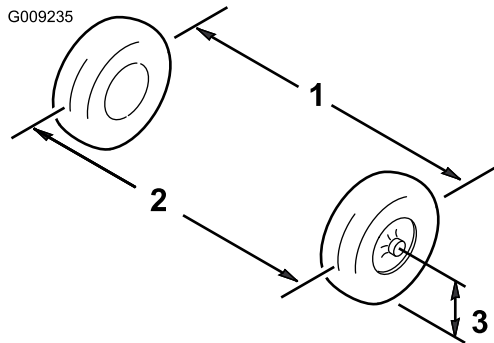

Figure 54
6. Measure the distance between both of the front tires at the axle height at both the front and rear of the front tires (Figure 54).